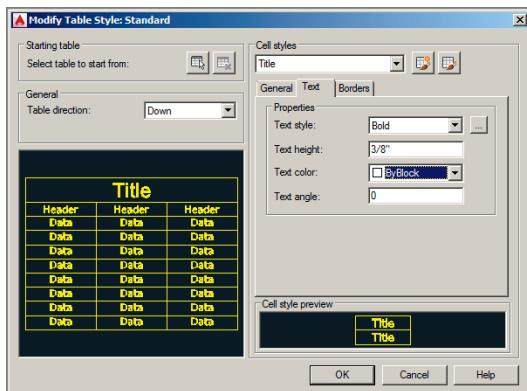

FIGURE 15.16 Editing the Title cell style text properties
3. Select the Text tab within the Modify Table Style: Standard dialog box. Open the Text Style drop-down menu, and select Bold. Double-click the Text Height text box, and type **3/8** (or **0.80** cm) and press the Tab key (see Figure 15.16).